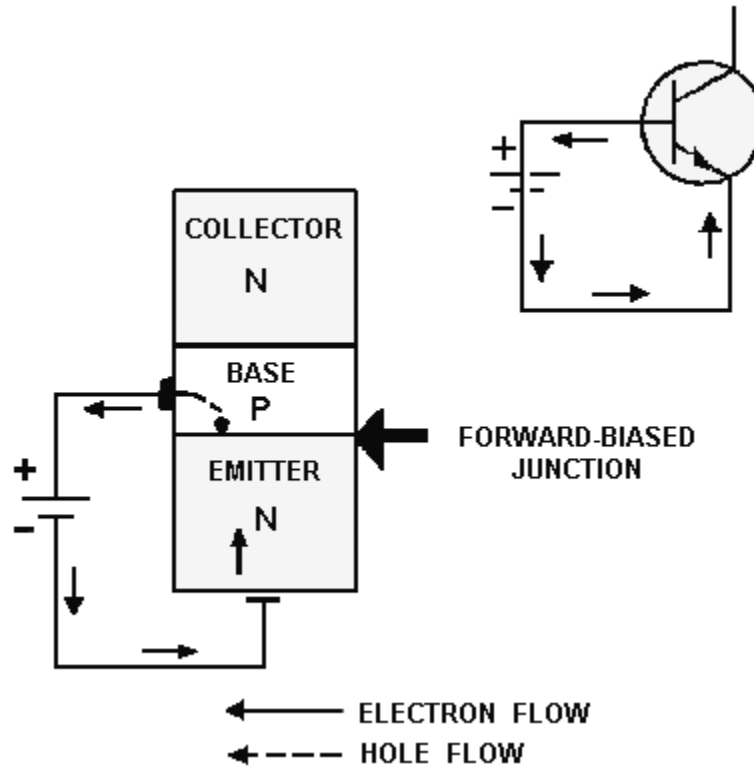

Figure 2-5.—The forward-biased junction in an NPN transistor.
**NPN FORWARD-BIASED JUNCTION.**—An important point to bring out at this time, which was not necessarily mentioned during the explanation of the diode, is the fact that the N material on one side of the forward-biased junction is more heavily doped than the P material. This results in more current being carried across the junction by the majority carrier electrons from the N material than the majority carrier holes from the P material. Therefore, conduction through the forward-biased junction, as shown in figure 2-5, is mainly by majority carrier electrons from the N material (emitter).